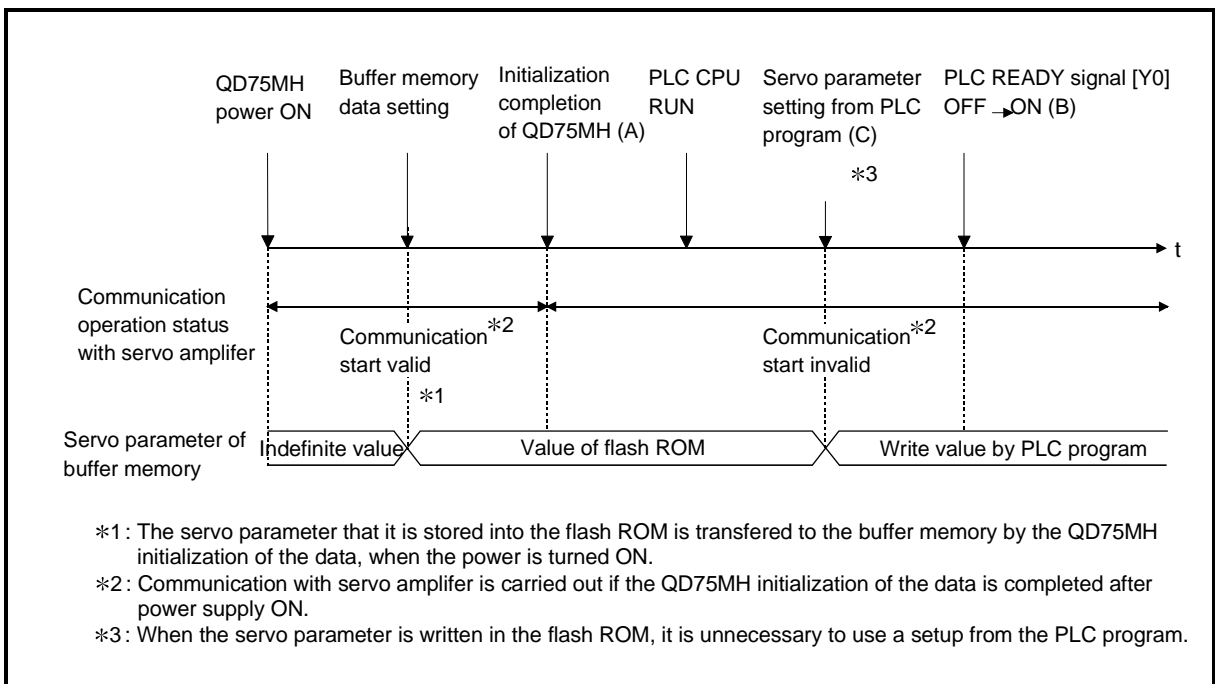

Fig. 7.1 Operation timing in the servo parameter transfer of the buffer memory
Communication start timing to the servo amplifier: Initialization completion (Fig. 7.1 A)
Communication start timing to the servo amplifier: The data written from PLC program before the PLC READY signal [Y0] ON (Fig. 7.1 B).
Transfer the servo parameter : The data written from PLC program before the PLC READY signal [Y0] ON (Fig. 7.1 C).
- (2) Servo parameter transfers when servo amplifier had started after the PLC READY signal [Y0] is turned OFF to ON (Fig. 7.1 B)